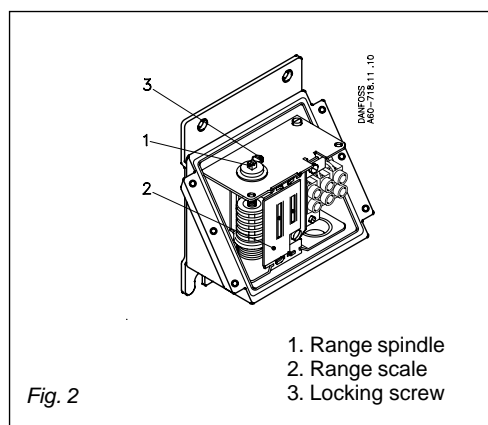

Fig. 2
When the thermostat cover is removed, and the locking screw (3) fig. 2 is loosened, the range can be set with the spindle (1) while at the same time the scale (2) is being read.